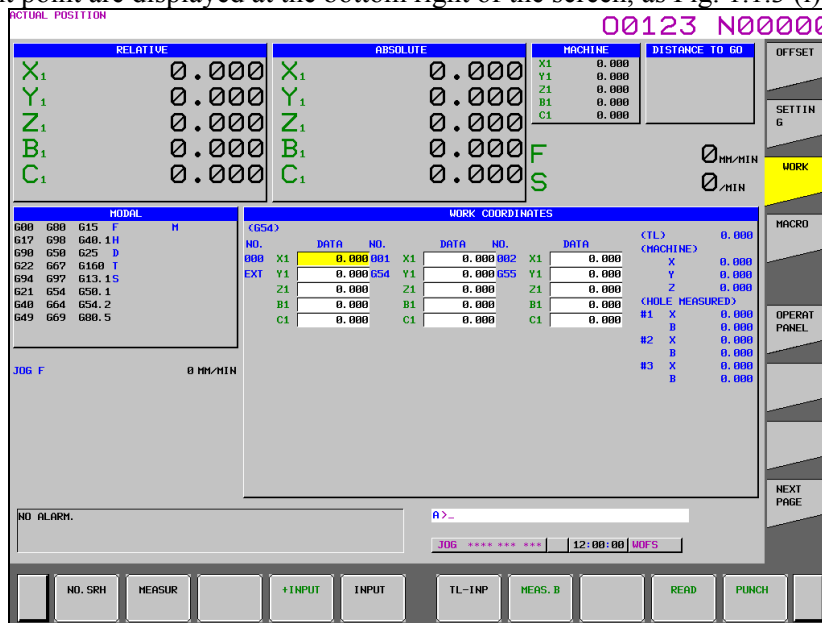

Fig. 1.1.3 (l) Workpiece origin offset setting screen (15-inch display unit)
- 6 As soon as the sensor detects contact with the circumference, input a skip signal to the machine, thus stopping the axial movement of manual handle feed or jog feed. Simultaneously, the position at which feed stopped is stored as the first measurement point. The machine coordinates of the stored measurement point are displayed at the bottom right of the screen, as Fig. 1.1.3 (l):